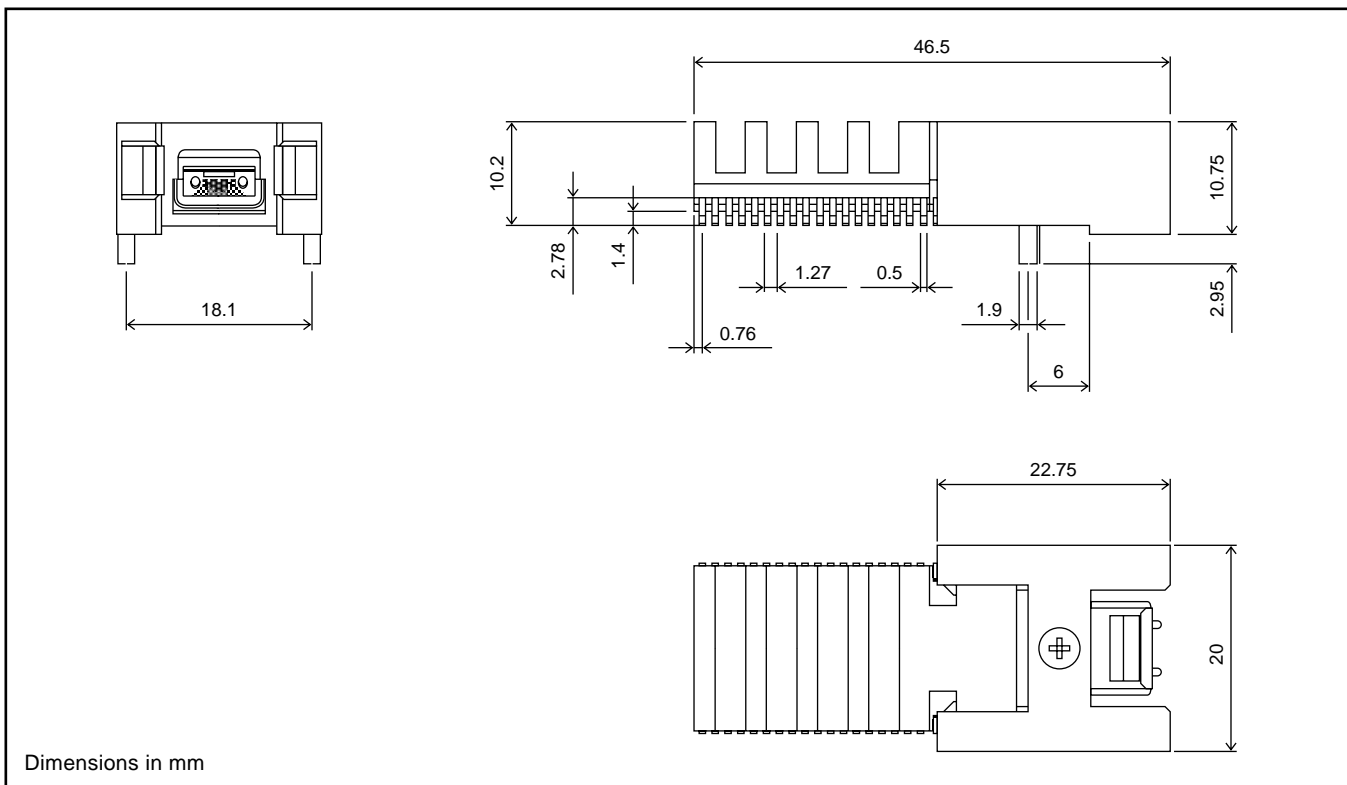

Figure 10 - MFR62340A-JX: MPX Connector Option
- Emission: The electromagnetic emission is tested in front of the module (module fitted with EMI shield "-JOS option"), with the module mounted in a front-panel cutout as shown in fig. 10. The specification is to FCC Class B with 6dB margin.